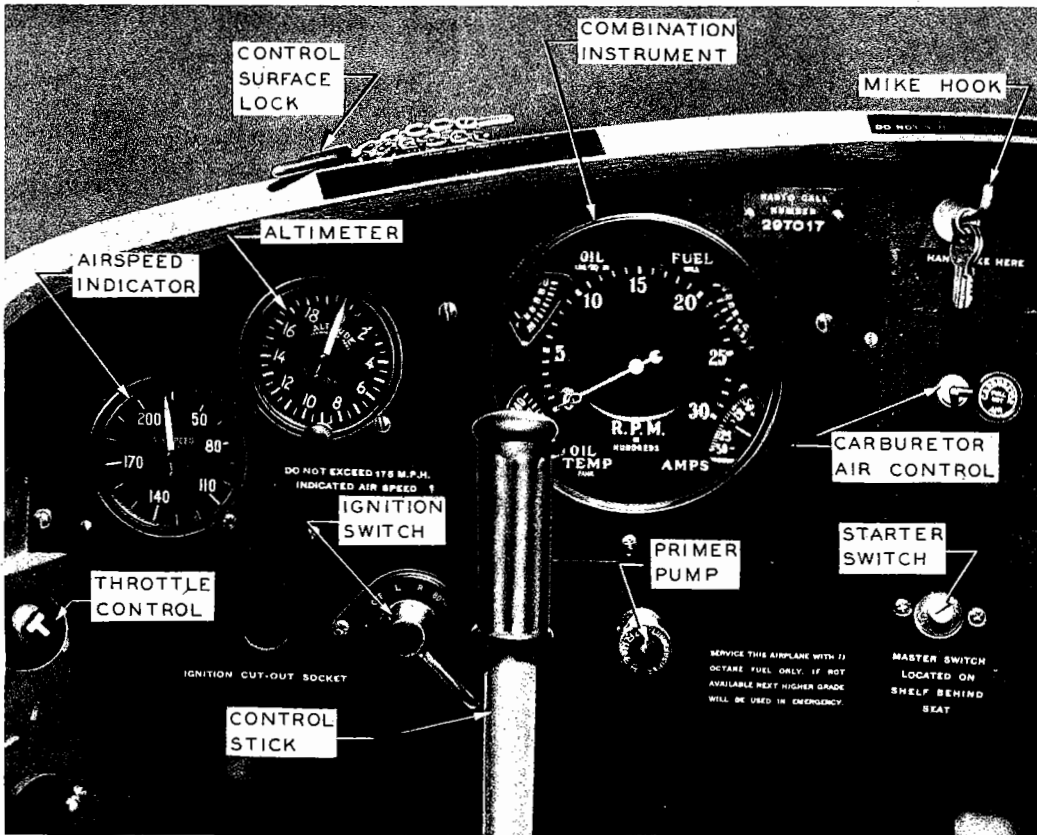

Figure 53—Instrument Panel—PQ-8A
(1) DESCRIPTION. (See figures 53, 54 and 55.)